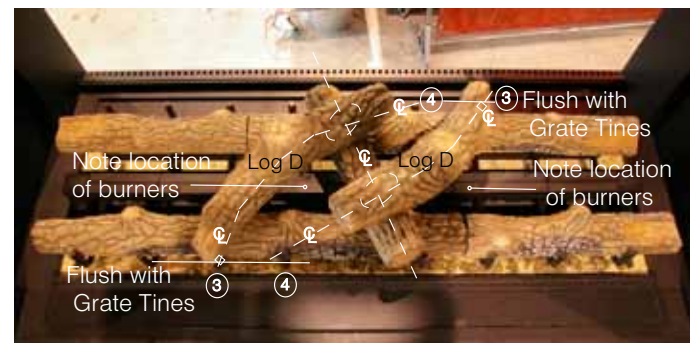
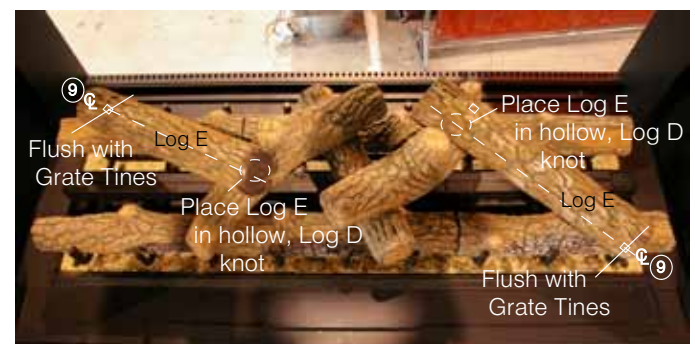

Figure. 12d Location of Logs 'D' (Log placement Typical for both).
Figure. 12e Location of Logs 'E' (Log placement Typical for both).
Figure. 12c. Place the faux Log labelled 'C'. (Note: Align the Log with the two (2) smooth indents facing upward, and the one (1) charred indent facing downwards toward the Linear burners). See Figure 12d & Figure 12e). (Indicated by ovals).
Step 6. Place the two (2) curved Logs labeled "D" . Align with the grate tines, and oval alignment cutouts as shown. Note: both outer ends are flush with the grate.